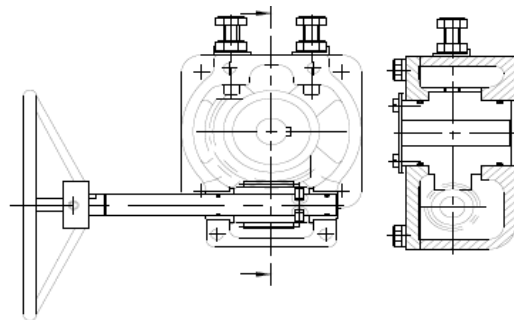

FIG.10. DETAILS OF GEAR OPERATOR
7.1.5. For gear operated valves, the gear operator open/close adjustment has been done prior to shipment and must not be changed. Rotation of hand wheel in the clockwise direction closes the valve and counter clockwise rotation opens it. The details of gear operator are shown in Fig.10. The internal details/construction of gear operator may vary as per manufacturer's standard.